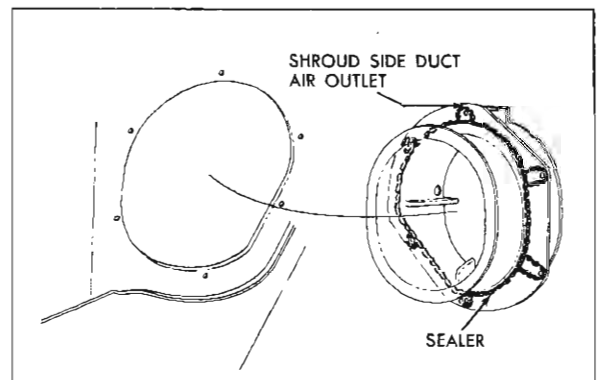

Fig. 2-15 Shroud Side Duct Air Outlet
3. To install, apply a bead of medium-bodied sealer (Fig. 2-15) to shroud panel at perimeter of air outlet opening in shroud panel and reverse removal procedure.